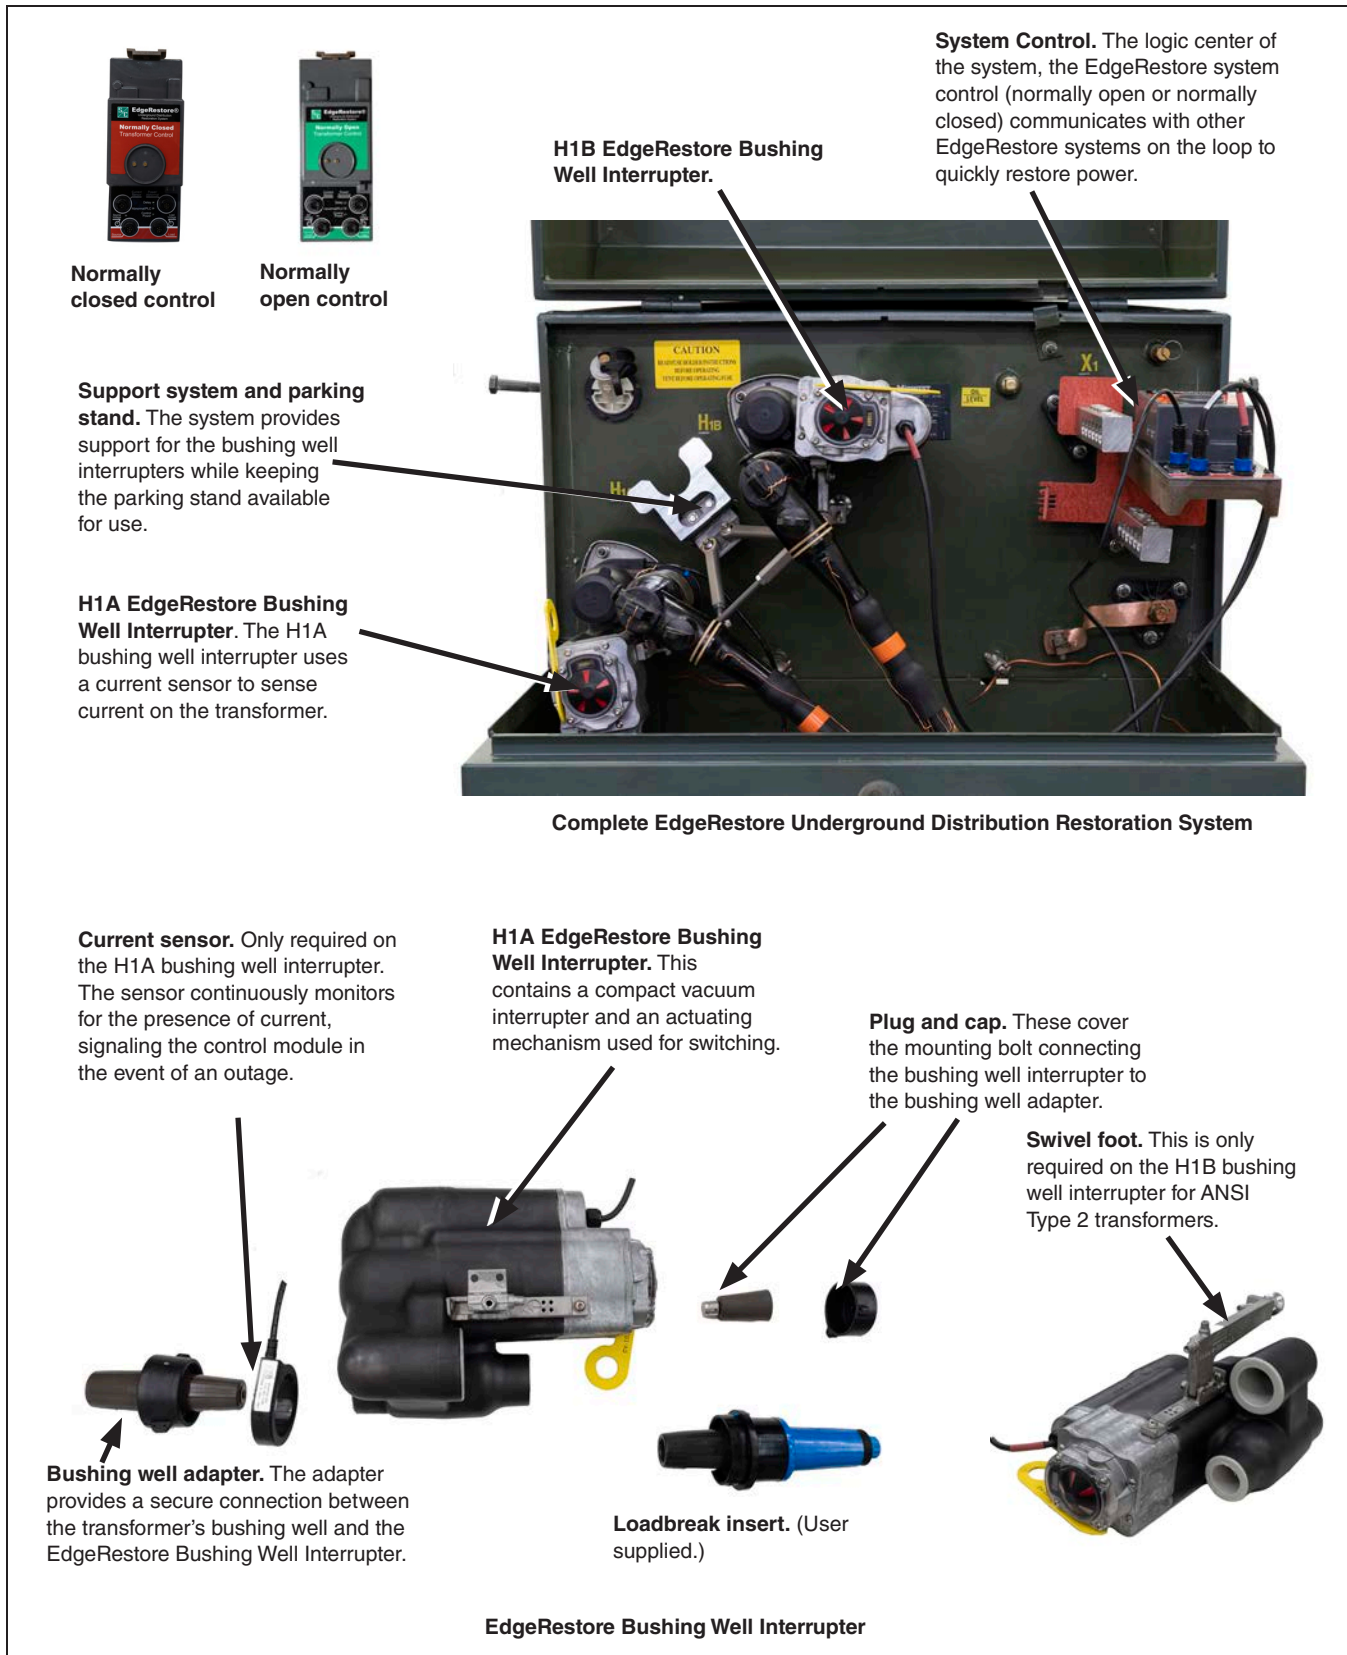

Figure 1. EdgeRestore Underground Distribution Restoration System components.
Become familiar with the parts of the installation. A completed installation is shown in Figure 1 on page 8.
- STEP 3.** Clean the bushing well adapters for the H1A and H1B bushings with a soft cloth. The bushing well adapters are included in the installation kit. They look like loadbreak inserts but are shorter and gray. See Figure 1 on page 8.